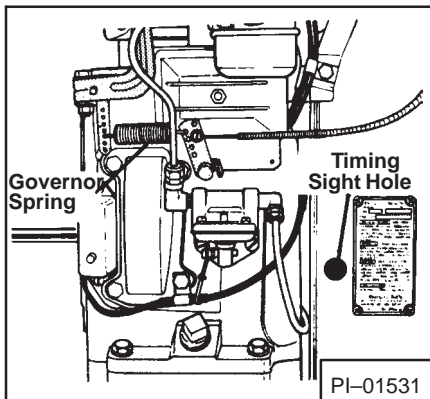

Fig. 10 Timing Sight Hole
1. Start the engine and run it at 1200 to 1800 RPM. Aim the timing light into the sight hole (Fig. 10). The light should flash just as the "S" mark is centered in the sight hole.
If a large speed drop occurs when load is applied to the machine, the governor should be set for greater sensitivity. This may be done by placing the governor spring (Fig. 10) into holes further apart on the governor arm bracket and speed control bracket.